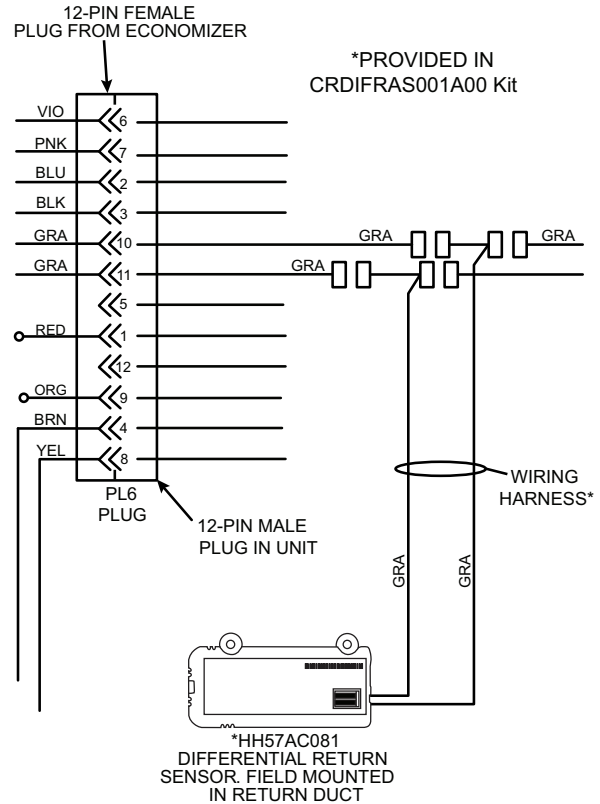

Fig. 2 — Wiring Differential Return Sensor (Typical 3 to 12.5 Ton Unit Shown)
On the unit-side of the PL6 economizer plug, there are (2) gray wires with spade terminal connections. Unplug these spade terminals from each other. (See Fig 2.) Connect the other end of the harness provided with the CRDIFRAS001A00 to these (2) wires per Fig. 2. This will send a Sylk BUS signal from the sensor back to the EconoMiSer X controller.